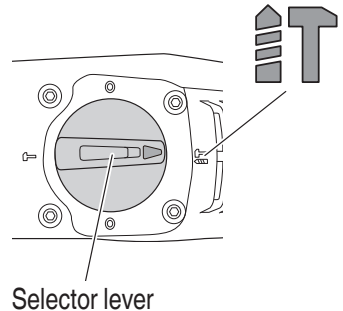

Fig. 9
- (1) Switching to “rotation + hammering”
- (b) Align ▲ of the selector lever and ■ of the crank cover as illustrated in **Fig. 9**.